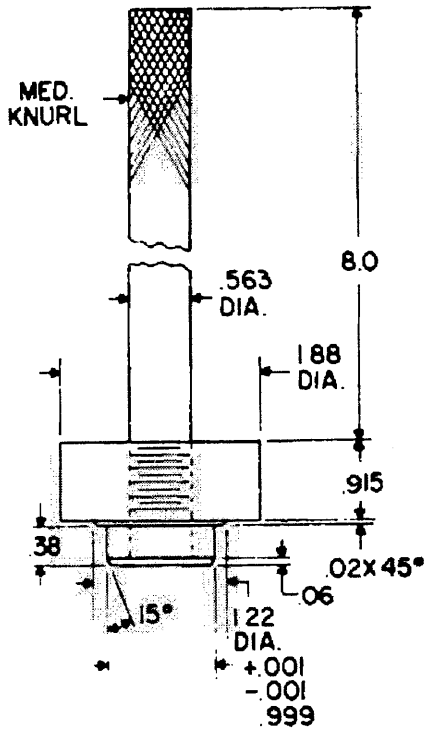

Fig. E2-35—Drawing of special tool which may be used to install bushing (34—Fig. E2-33) in gearcase.
A blind hole bearing puller should be used to pull propeller shaft bushing (34). A special driver (Fig. E2-35) should be used to install new bushing.